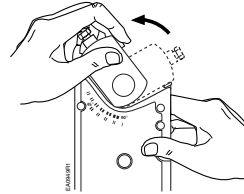

Figure 10
- b. Hold down the **PUSH** button and rotate the shaft adapter to the left until it stops. See Figure 10.